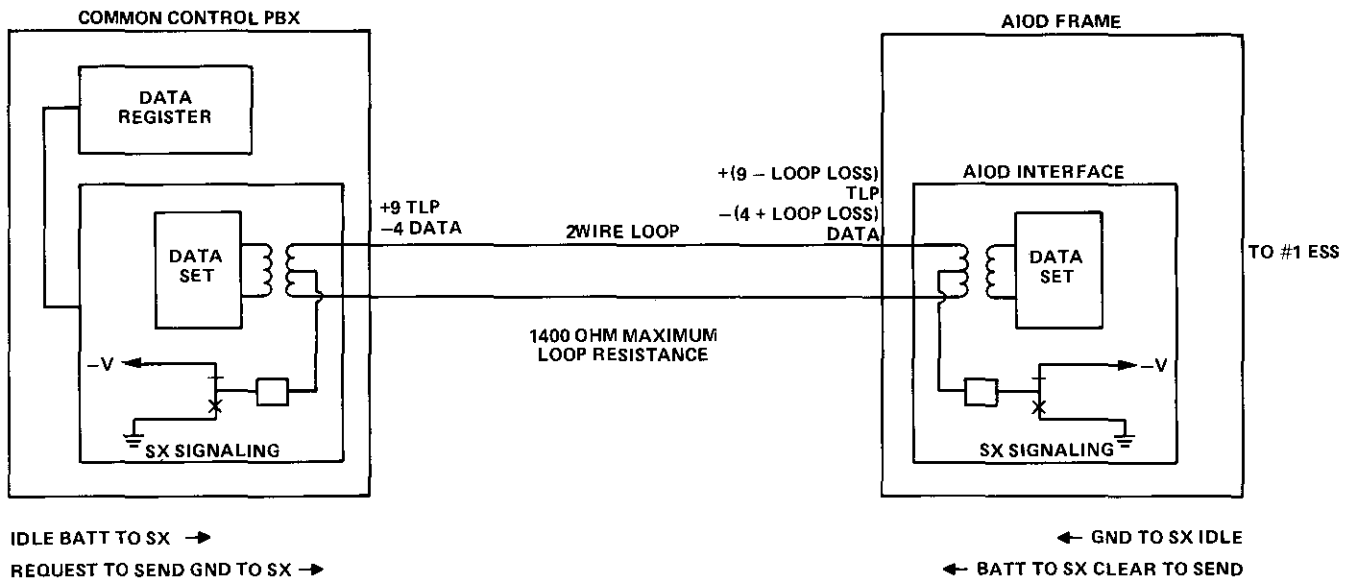
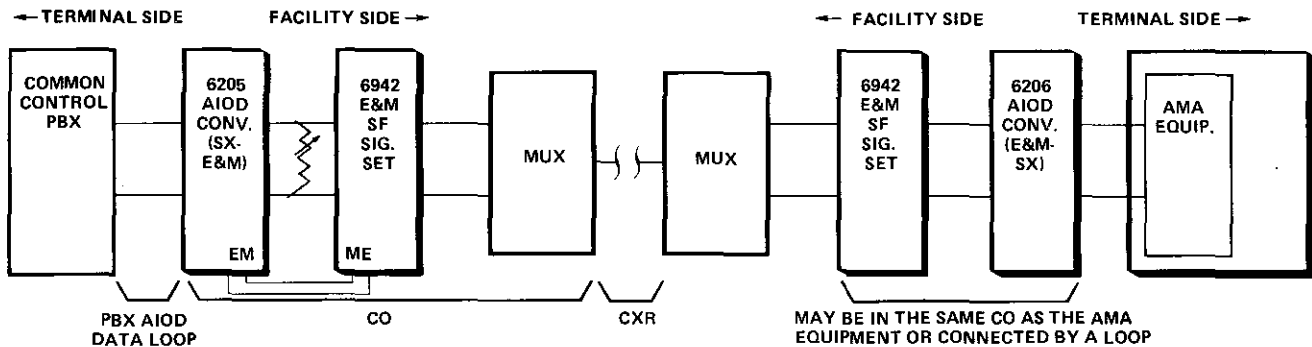
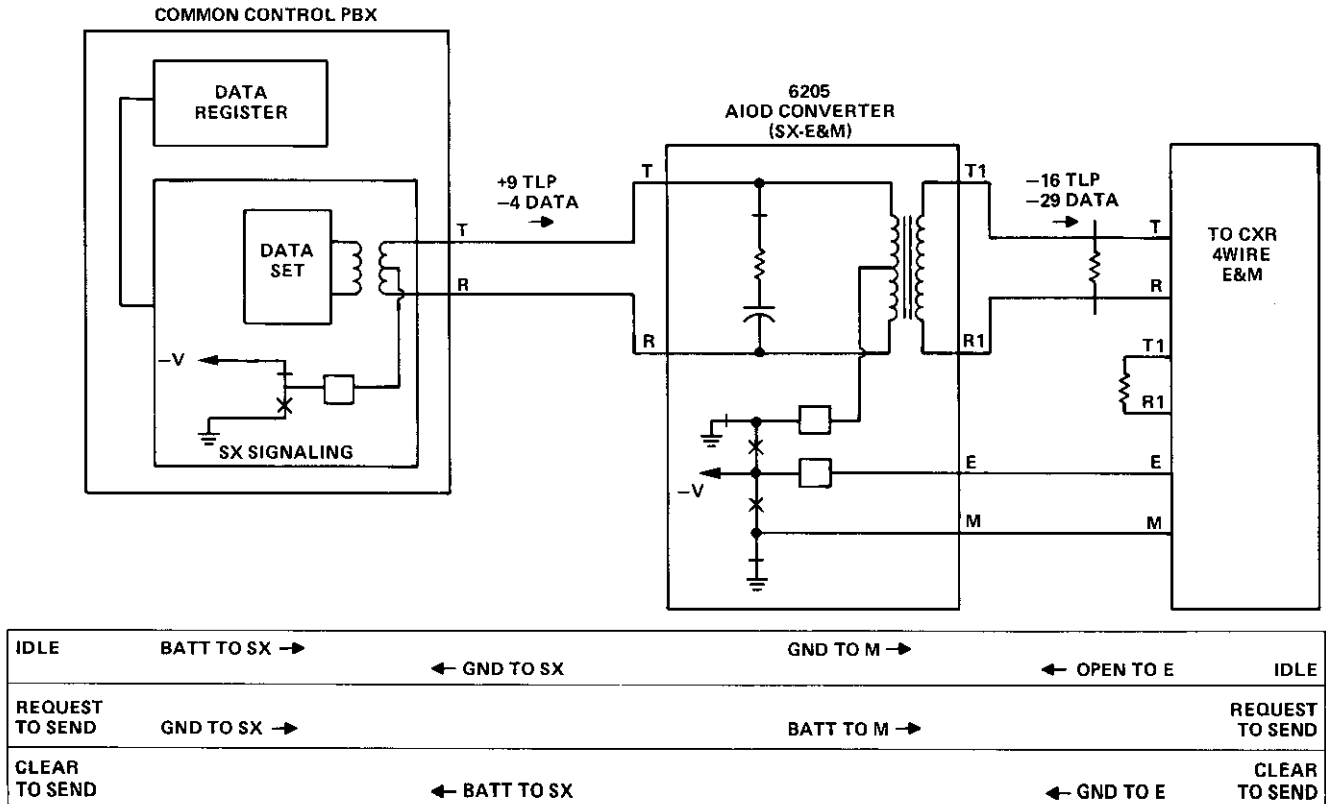

figure 2. Typical local AIOD arrangement
figure 3. Typical 6205 application
figure 4. Simplex and E&M states in a typical 6205 application
2.01 The 6205 AIOD Converter module is used to extend PBX AIOD access to AMA equipment in a distant central office. When AMA equipment is located in the central office serving the PBX, signal-conversion equipment is not usually required (see figure 2). When the local CO cannot accommodate AIOD service, however, access to an AMA register is extended to a larger office. This extension may be via a carrier-derived E&M voice channel, PCM carrier, SF signaling, or, on rare occasions, DX facilities. The 6205 provides conversion between the PBX-CO loop's simplex supervision and a 4wire E&M interface. Figure 3 shows one typical application of the 6205.
The remainder of section 2 discusses operation of the 6205 in a typical application. Figure 4 shows the simplex and E&M states involved in such applications. Keep in mind that at the distant end of the circuit, similar signaling-state changes will take place, possibly via a Tellabs 6206 AIOD (E&M-SX) Converter module (see figure 3).